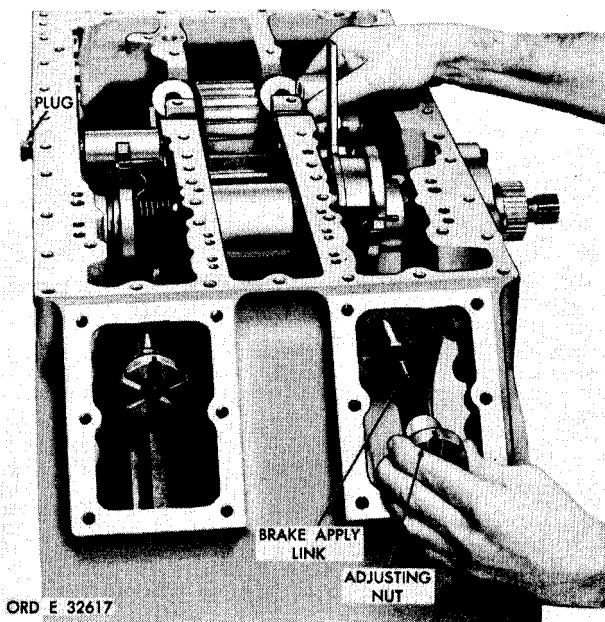

Figure 198. Installing right-brake adjusting nut
*xc2* ag. Install the left-follower link shaft plug (fig. 198).
ah. Position the rear housing upright on assembly table. Assemble items 58 through 71 (fig. 379, fold-out 8) and install as in fig. 198. Install brake, adjusting nut on the right-brake apply link, approximately 1/2 inch (fig. 198).